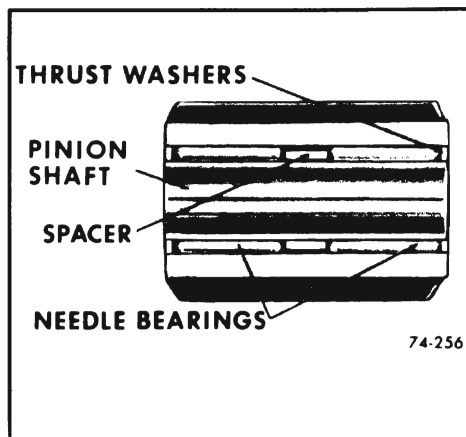

Figure 74-263
4. Coat inside pinion gear with petroleum jelly. Install Pinion Shaft into long planet pinion gear. Install twenty (20) needle bearings, spacer, twenty more needle rollers, and two (2) thrust washers. See Figure 74-263.